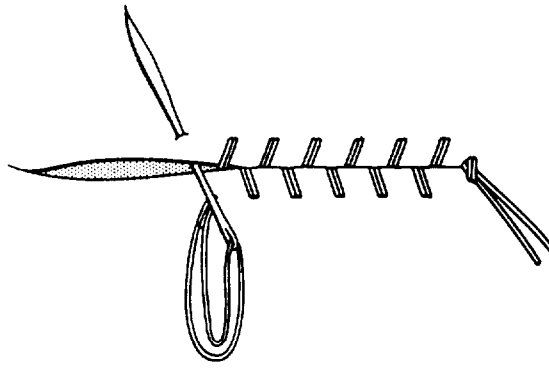

Figure 3-36—Baseball stitch.
- **Baseball stitch:** The baseball stitch is used to mend tears in light and medium canvas. Figure 3-36 shows how it is done.